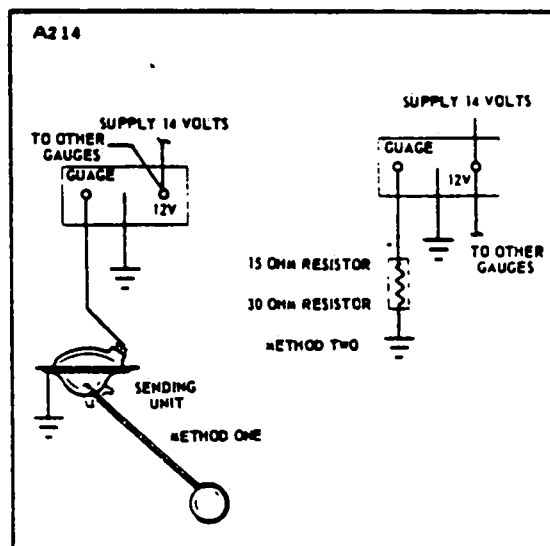

Figure 9-6. Checking Fuel Gauge
- (b) Connect the sender directly to the gauge being checked using Number 16 or larger wire. (Refer to Figure 9-6.)
- (a) Connect a 15-ohm resistor to the sender unit terminal of the gauge being checked. (Refer to Figure 9-6.)